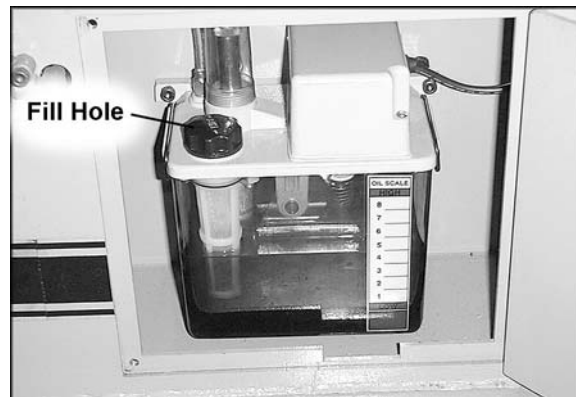

Figure 18
1. Check the oil tank at the infeed side of the machine (Figure 18). If it is not full, remove the cap and add light 20-weight oil through the fill hole. Replace cap when finished.